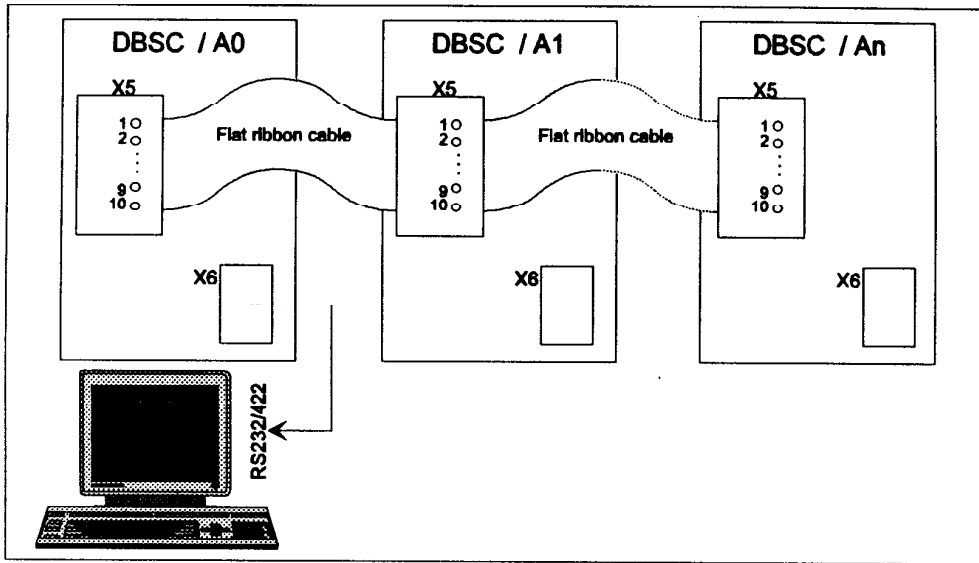

Figure 3.1: Wiring principle for RS232 and RS422 daisy chain
- **Daisy chain:** This configuration is obtained by connecting the PC to connector X6 of only one DBSC. Then the remainder of DBSC's in the daisy chain must be linked via connector X5. Also jumpers SB501 to 510, solder bridge LB304 as well as DIP switches AS1 to AS4 must be set in accordance with the desired configuration. Note that daisy chain is possible for RS232 and RS422 only. Refer to figure 3.1, and table 3.1 for wiring principle, and also to paragraphs 6.1.2 and 4.3 in the "Installation and Instruction Manual".